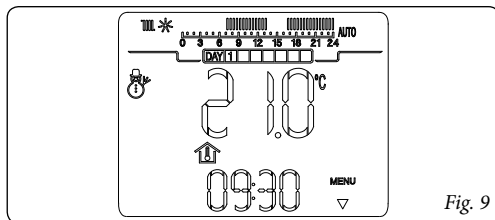

Fig. 9
- **Winter mode** (⊗). In winter mode the boiler is enabled for room central heating. In winter mode the CRONO 7 can function in automatic or manual mode. For the description of functioning see chapter 5. The display shows the day and current time, the room temperature and the hour bar with the daily programming of the central heating timer along with the relative symbols (fig. 9).